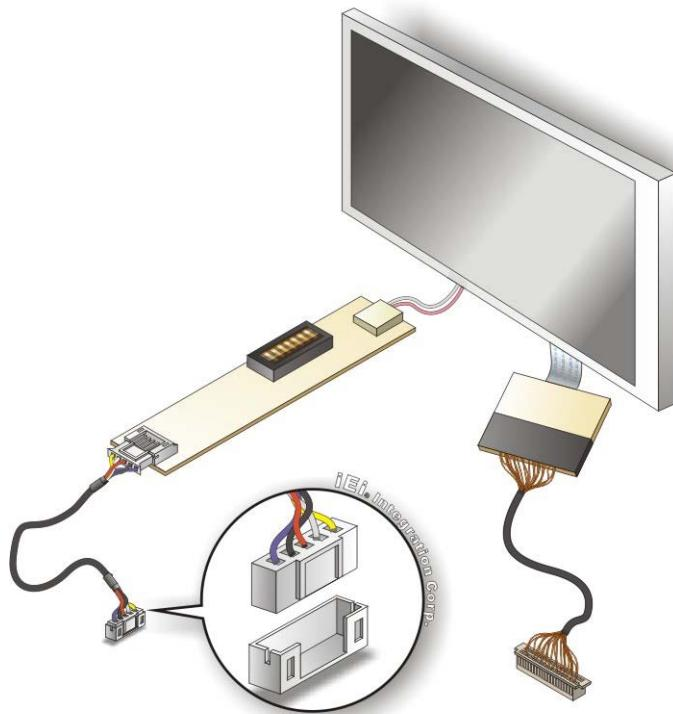

Figure 4-22: Backlight Inverter Connection
**Step 4: Connect backlight connector.** Connect the backlight connector to the driver TFT LCD PCB as shown in **Figure 4-22**. When inserting the cable connector, make sure the pins are properly aligned.